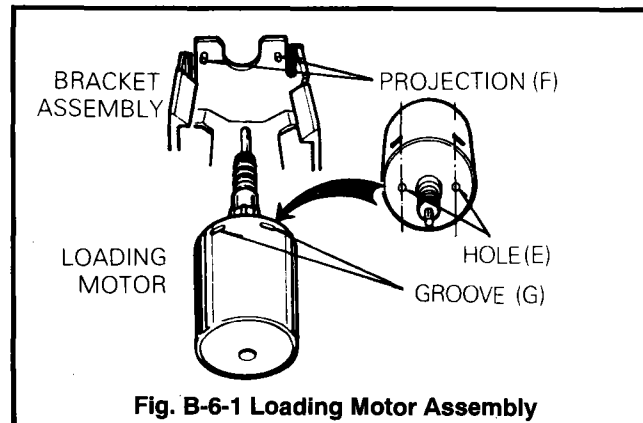

Fig. B-6-1 Loading Motor Assembly
6. Loading Motor Assembly(Fig. B-6-1, B-6-2)
- ① Make sure that the worm assembly is seated in the axis of Loading Motor.
- ② Two grooves(G) of Loading Motor should be turned up and two projections(F) of Bracket Assembly should be seated in each at the two holes(E)(Fig. B-6-1).
- ③ Take notice of the polarity of the Loading Motor.